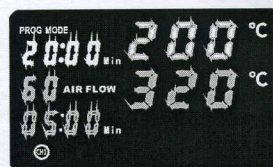

Figure 5
6. Rotate the "START/STOP" button or press air gun temperature plus and minus key to set air volume, determined by pressing the "START/STOP" key, at the same time to the time of air gun work settings, "05:00" flashing, as shown in figure 5.